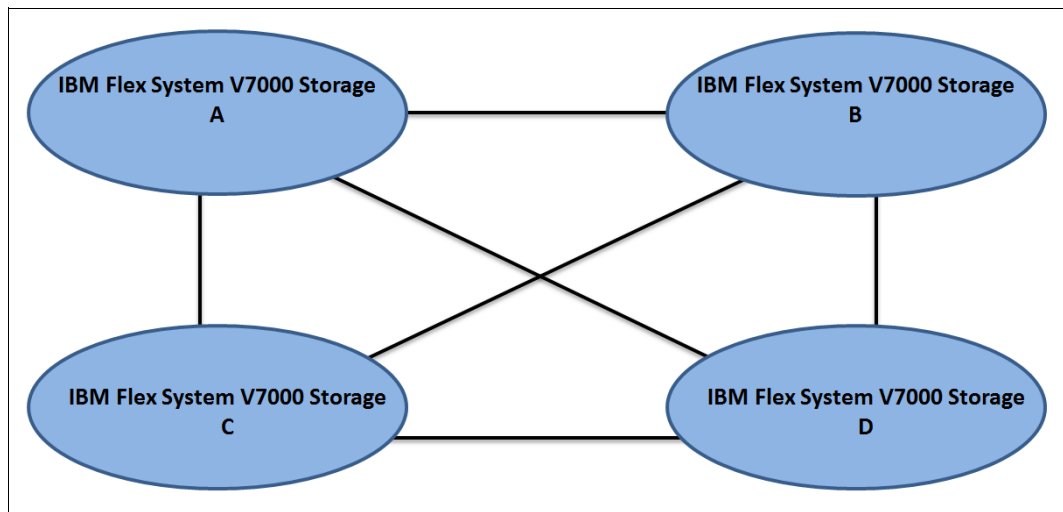

Figure 9-59 Full-meshed IBM Flex System V7000 Storage Node
- ▶ Full-meshed topology (Figure 9-59):